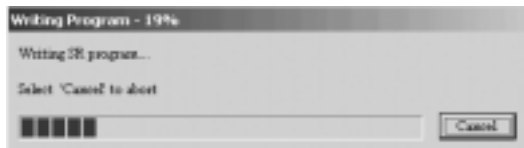

Fig 4.24 Update Program Process
- d. Click button “OK” with left button of mouse, start update Program, dialog box shown as Fig. 4.24 display update Program course.